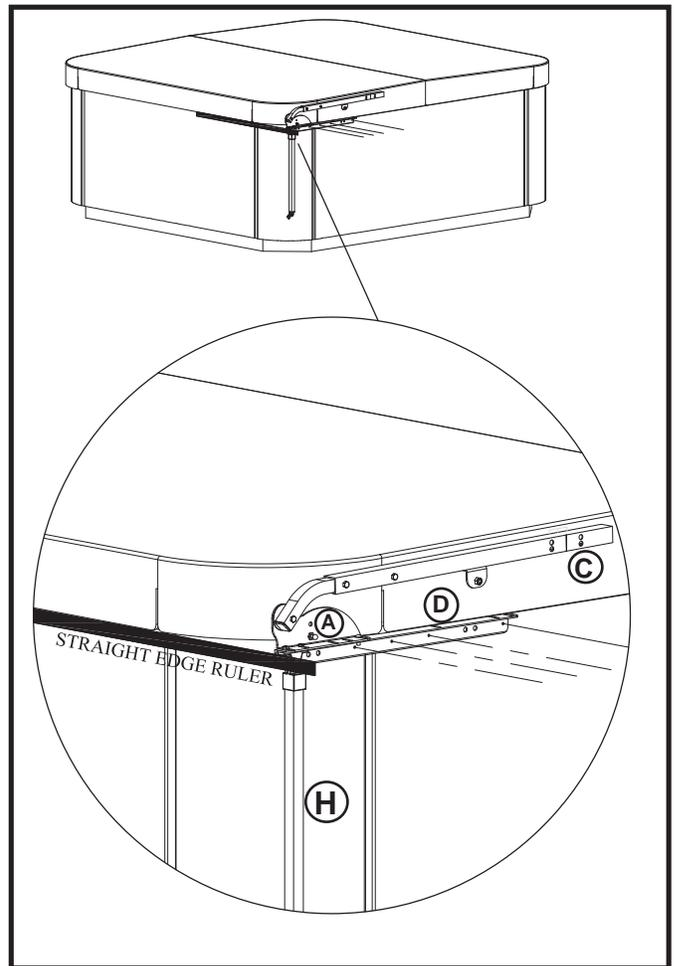

Figure 2.2
2. Place a straight edge ruler under the spa shell lip on the back-left part of the spa. Align the back of the Auxiliary Bracket (D) with the straight edge ruler (Figure 2.2).
3. While holding in place the straight edge ruler aligned with the back side of Auxiliary Bracket (D) and using the small holes on the Auxiliary Bracket (D), mark (4) holes. Mark the holes starting from the hole pointing toward the middle of the spa, working your way towards the edge of the spa (Figure 2.2).
- 4a. Using the marks made on the spa cabinet on previous step, drill 1/8" (3mm) holes at a depth of 1/2" (12.5 mm) max into spa cabinet (Figure 2.2).
- 4b. Using the marks made on the spa cabinet on previous step, drill 1/8" (3mm) holes at a depth of 1" (25 mm) max into Endless Pools cabinet (Figure 2.2).